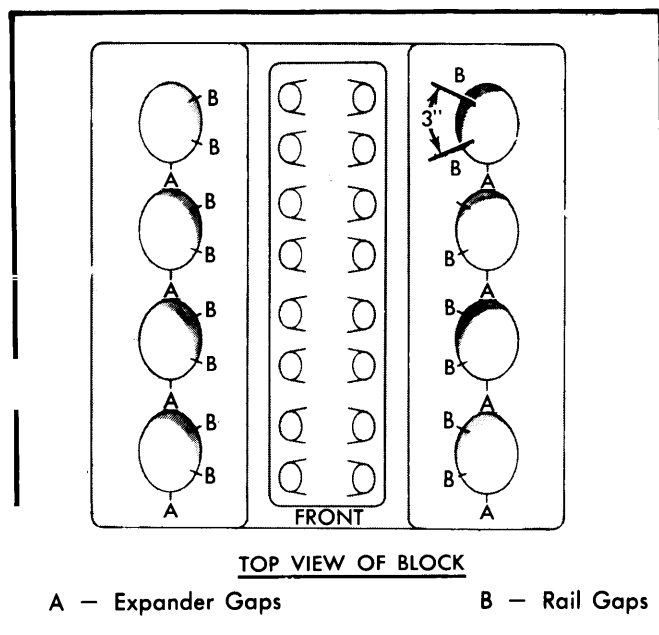

Fig. 9 Positioning Oil Rings for Installation
**Installation** — 1) Before installing piston and connecting rod assemblies into cylinder block, compression ring gaps must be staggered so neither is in line with oil ring rail gaps and "TOP" must be facing top of piston. Oil ring expander ends should be positioned under the notch on piston. Oil ring rail gaps should be facing middle of engine upon installation and spread 3" apart (see Fig. 9).